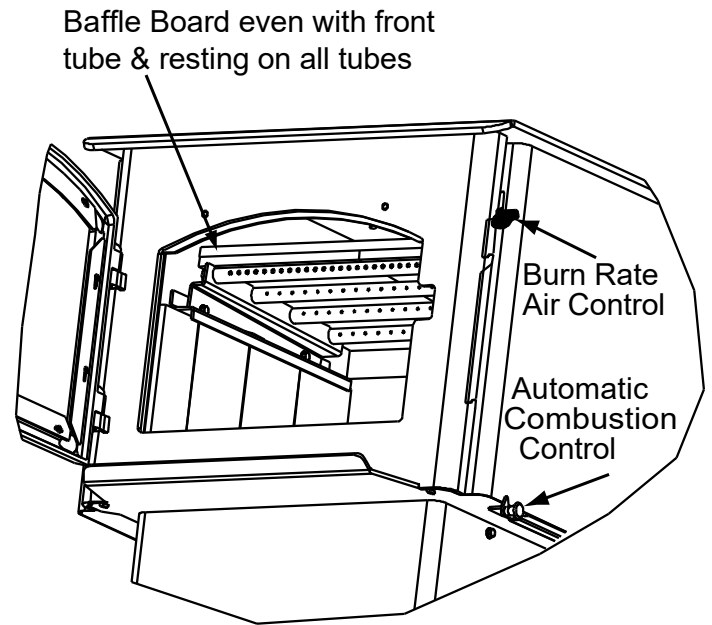

Figure 21.1 - Baffle
2. The baffle board has 2 pieces. With the ceramic blanket still in place, slide one baffle piece over the top of other one and pull out top piece through the door opening and then remove bottom baffle piece (**Figure 21.1**).